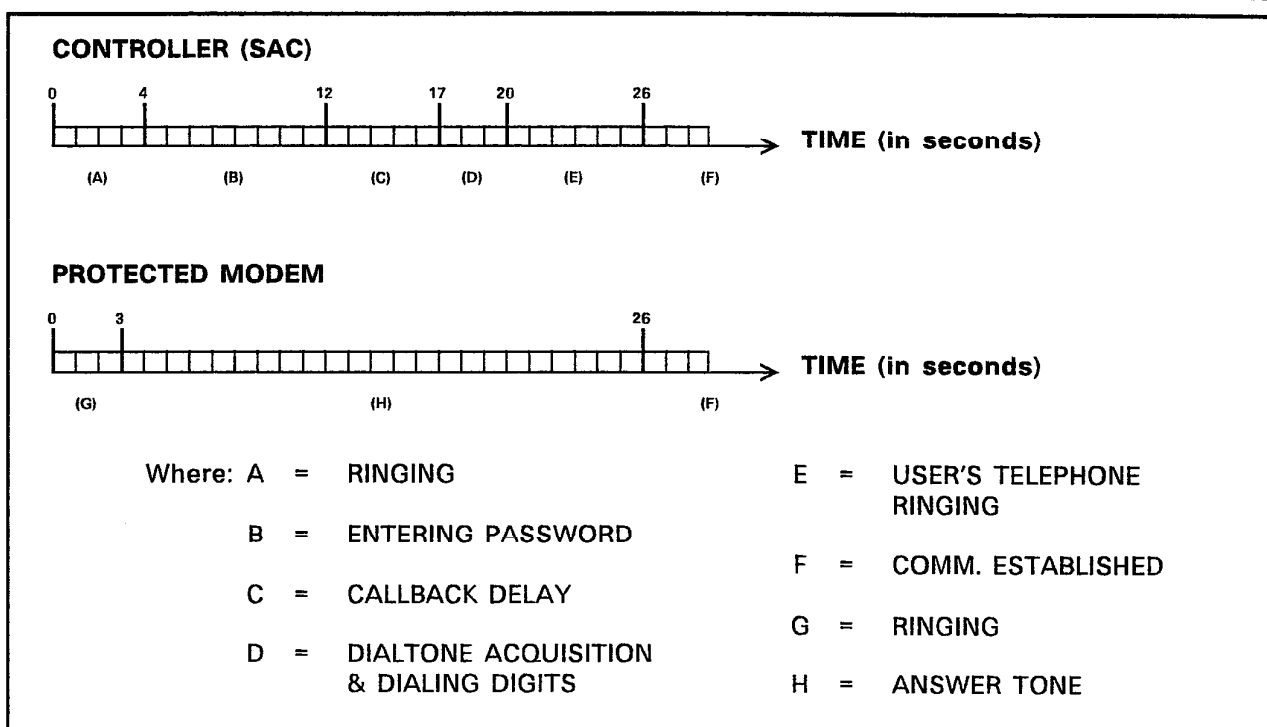

Figure 7-2, Typical Callback Operation, SAC and Modem Timing
**7.20** In general, the Controller timing can be programmed to adapt to most situations encountered as long as the protected Modem is capable of remaining ON-LINE for a long enough period to allow call completion. Refer to Figure 7-2 for a graphic representation of the Modem and Controller timing.
**7.24** There will be a single progress tone heard in the receiver to inform the caller to enter the password. A double progress tone (two beeps) will be heard to request entry of the callback number. Finally, a triple progress tone will be issued to request that the caller hang up. The timing sequence for the events is the same as those in Figure 7-2 except for the addition of a 16 second period to wait while the Controller waits for the caller to enter the callback number.